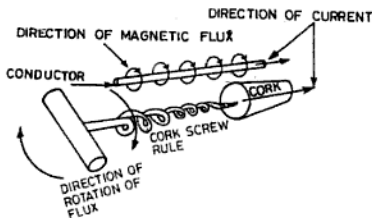

Fig. 6.17 Cork screw rule
**Cork Screw Rule** Imagine a right-handed cork screw being screwed along the wire in the direction of current as shown in Fig. 6.17. Then the direction of rotation of the cork